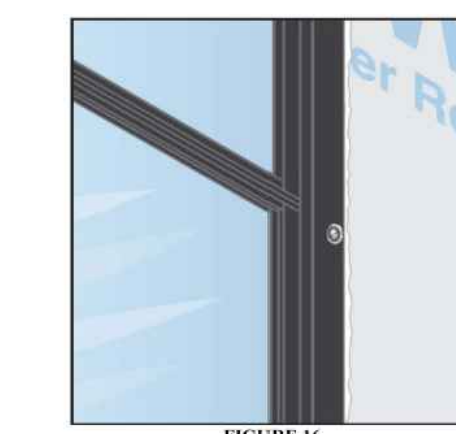

FIGURE 16
7.3.6.1 For proper sealant coverage, ensure squeeze out under flange and in fastener holes (see Figure 16).
**7.5.6.3** Adhere the top end of the flashing 50 mm (2 in) above the rough opening, such that the head flashing (applied later) will lap over the jamb flashing by at least 50 mm (2 in) (see Figure 16). Do not interfere with the WRB flap at the head. Tuck the top of the jamb flashing under the flap of the water-resistant barrier at the head.